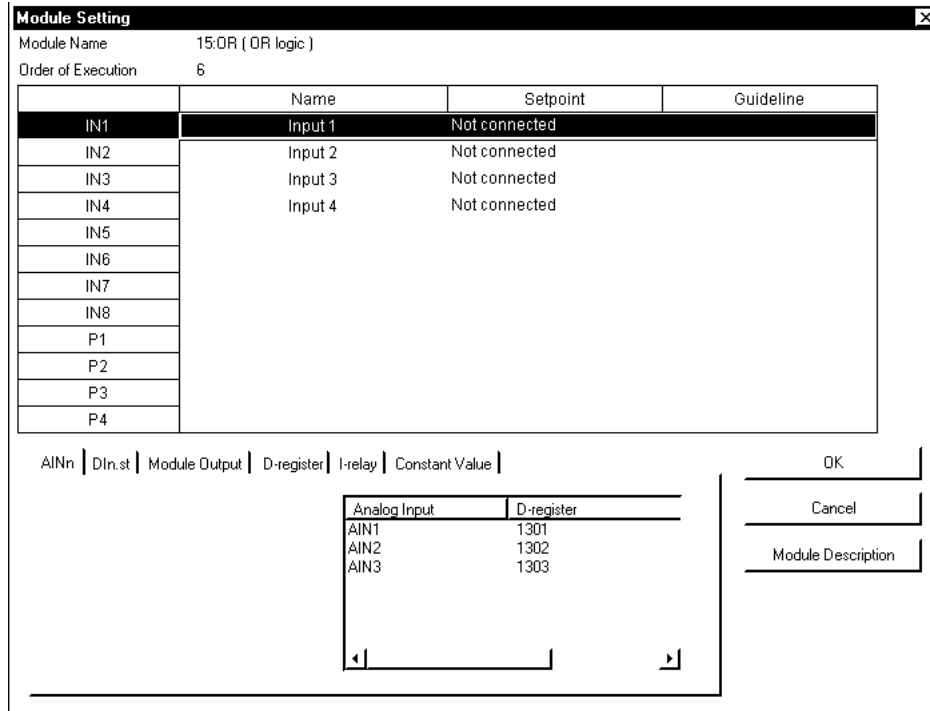

Figure 12.7.6 [Module Setting] Dialog Box
- ① Click the registered sixth-run OR module.
- The [Module Setting] dialog box (Figure 12.7.6) appears.